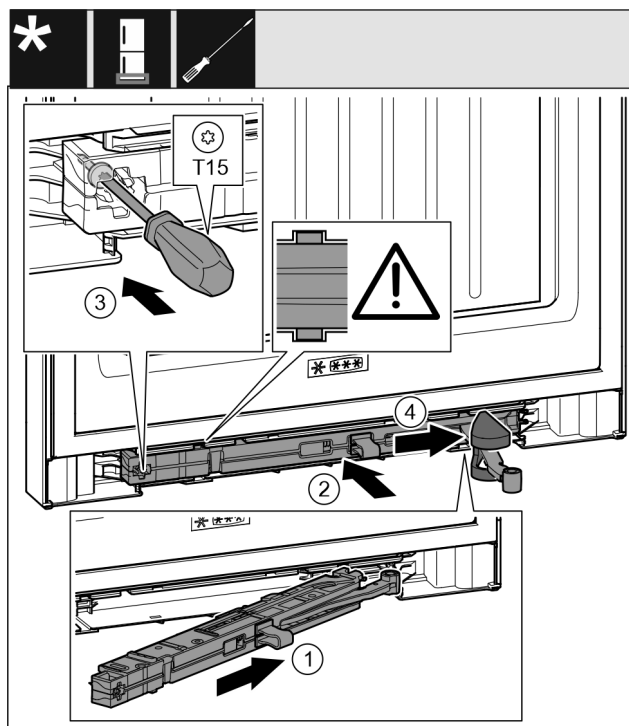

Fig. 42
- ▶ On the swap bearing block side, slide the closing damper unit *Fig. 42 (1)* into the recess at an angle up to the stop.
- ▶ Push the closing damper unit *Fig. 42 (2)* into the recess completely.
- ▶ Use a screwdriver to tighten the screw *Fig. 42 (3)*.
- ▶ Push the cover *Fig. 42 (4)* over the joint.